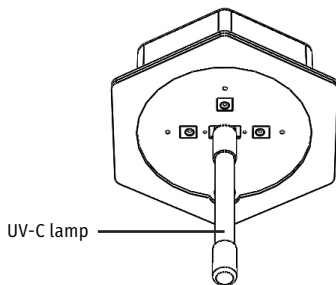

Fig. 6 Replace UV-C lamp every 2 years
- Remove the ionizing cell from the power supply/ballast and dispose of properly. **Note: If only changing the UV-C lamp, detach lamp from device and dispose of the lamp properly.** (See Fig. 6)